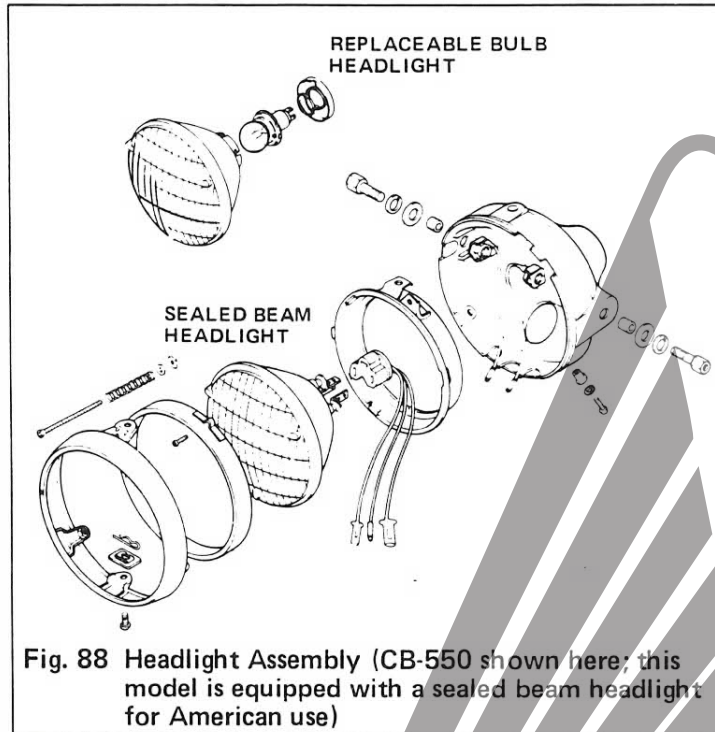
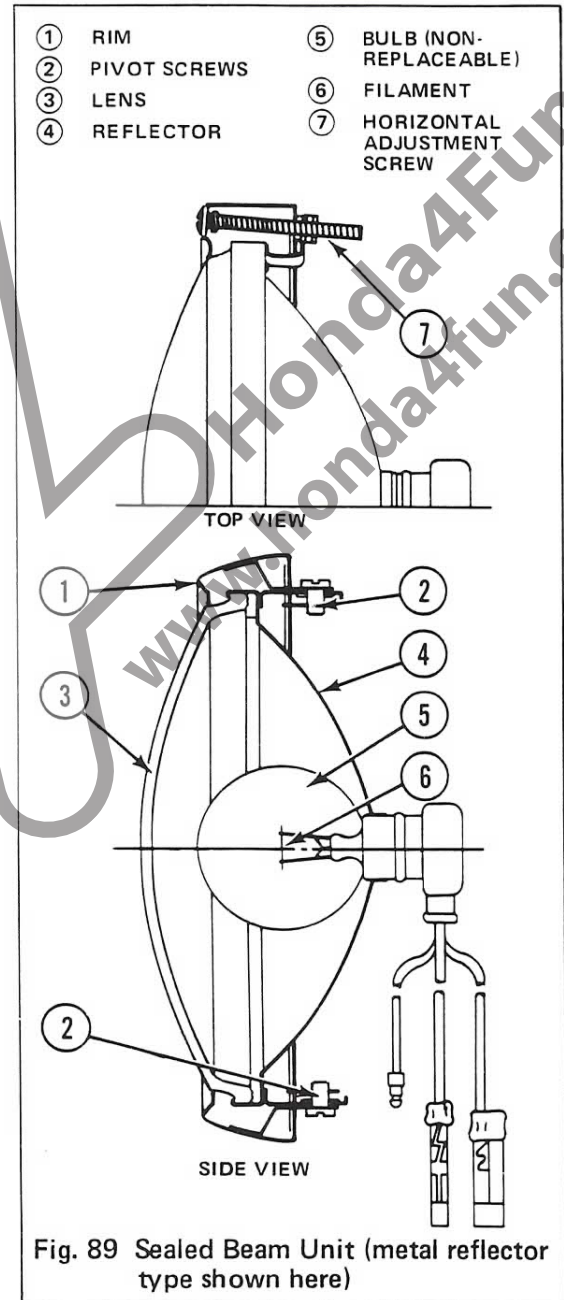
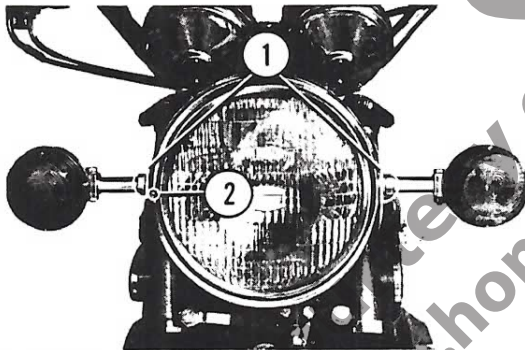

Fig. 88 Headlight Assembly (CB-550 shown here; this model is equipped with a sealed beam headlight for American use)
Fig. 89 Sealed Beam Unit (metal reflector type shown here)
Fig. 92 Headlight Beam Adjustment
Headlights may have replaceable bulbs or may be sealed beam units (Fig. 88). A sealed beam headlight has the lens (3), reflector (4), and lighting filaments (6) assembled permanently in a sealed unit (Fig. 89). When a filament in a sealed beam headlight burns out, the entire unit must be replaced. It is somewhat more expensive to replace sealed beam units than bulbs, but the airtight seal excludes dust and moisture which could otherwise enter the headlight and tarnish or otherwise reduce the efficiency of the reflector.
There are two types of sealed beam construction. One type uses a glass reflector which is fused to the lens, forming its own protective bulb around the filaments. The other type uses a metal reflector permanently attached to the lens and sealed, but containing a conventional looking, non-removable bulb, as shown in Fig. 89.
Headlight mounting adjustments enable the beam to be precisely aimed. Vertical adjustment is accomplished by loosening the headlight mounting bolts ① (Fig. 92), and rotating the headlight assembly up or down. In some Honda models, such as the one shown in Fig. 92, the headlight mounting bolts are also the directional signal mounts. Horizontal adjustment is accomplished by turning an adjustment screw ② which pivots the headlight in its rim. Details of the horizontal adjustment mechanism are shown in Fig. 89.